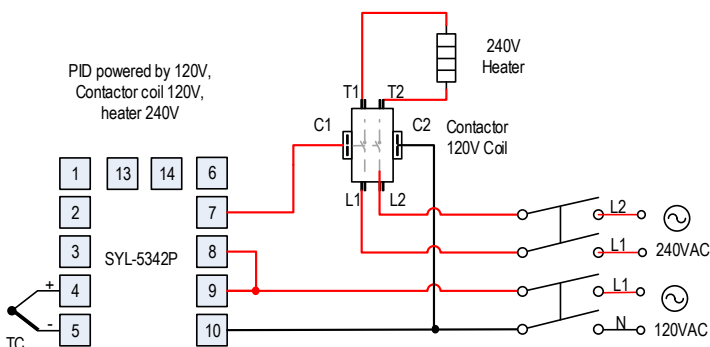

Figure 11. SYL-5342P with an external contactor.
The temperature profile is shown below in Figure 11.
Figure 11. Temperature profile of an oven that is programmed to hold temperature at 800°C for 2 hours. The solid line is the temperature when the oven is capable of ramping up from 25°C to 800°C in 30 min; the dashed line is the temperature profile when the oven needs longer time to ramp up to 800°C.
**Note 3:** If the heater is not capable of heat the oven from 25°C to 800°C in 30min, the actual oven temperature can fall behind the schedule. Safety start band will be triggered to pause the timer until the reading temperature gets close. The timer for step 2 (the soak section) will start even when temperature is still a little bit below 800°C; and so the actual soaking time will be less than 2 hours. Please see the dashed line in Figure 11.